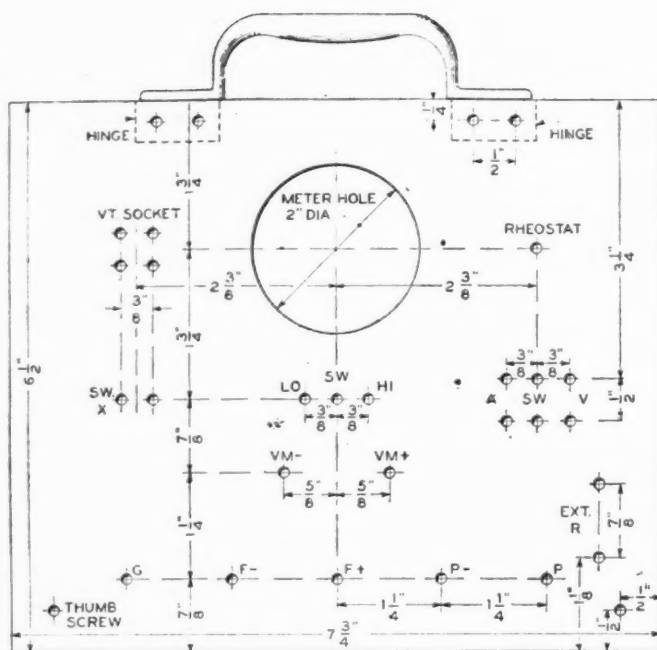

FIG. 8.—THE PANEL LAYOUT
Figs. 8, 9 and 10 show the complete wiring diagram, the panel layout, and the dimensions of the box used by the writer. The box used once housed a Radiola III, and the five-wire battery cable from the same set (unused wire cut off) is used for the adapter cord. The adapter plug (AD) was improvised from a CX-199 tube base and a section from the handle of an old electric soldering iron. A piece of broomstick with a hole drilled lengthwise